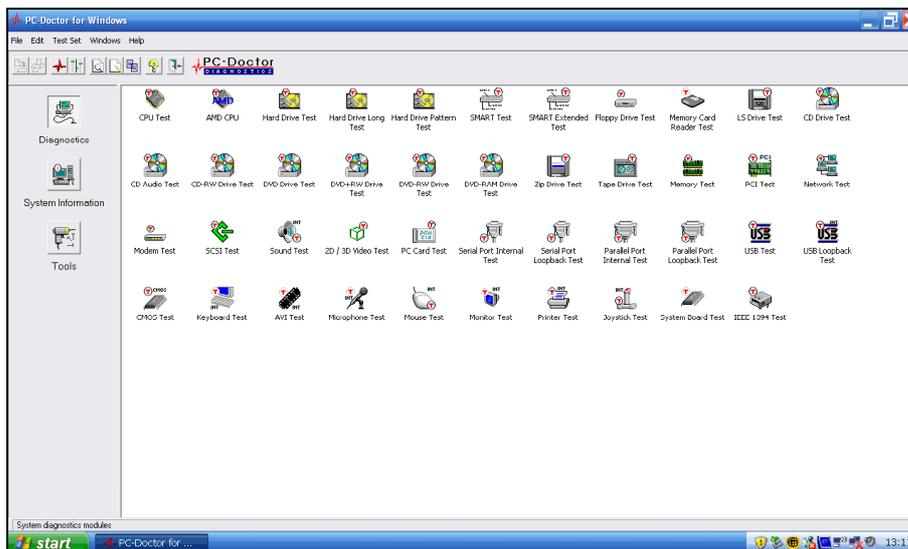

Figure 10.2-2
5. PC Doctor will now run. Select the 'diagnostics' option. You are now ready to run one of the tests by selecting one of the icons. See Figure 10.2-2.